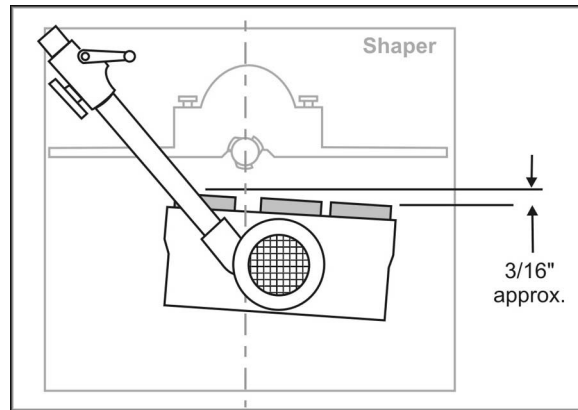

Figure 17
2. To ensure that the workpiece is held firmly against the fence, set the stock feeder at a slight angle toward the fence in the direction of feed. In other words, the outfeed roller should be approximately $3/16"$ (5mm) closer to the fence than the infeed roller. See Figure 17.